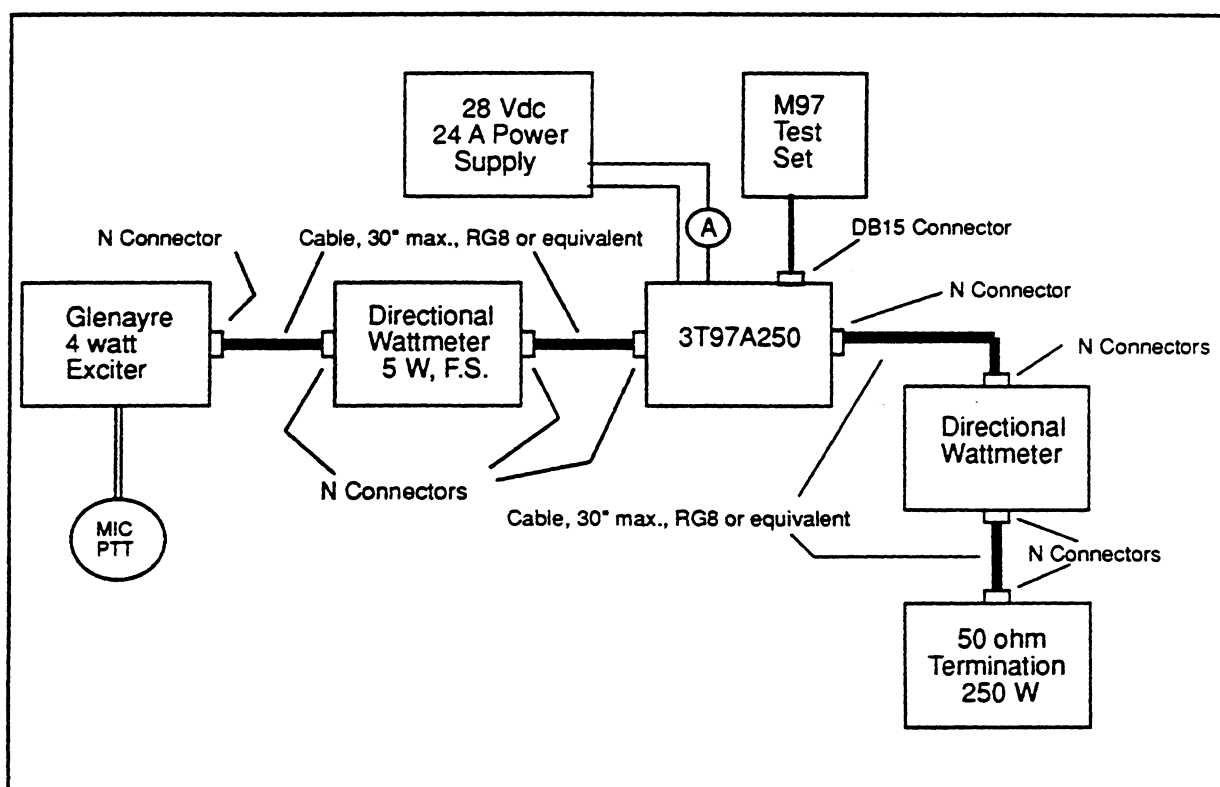

Figure 6-2 : Power Amplifier Test Configuration
1. Set up the exciter, 3T97A250 RF power amplifier, and test equipment as shown in Figure 6-2.